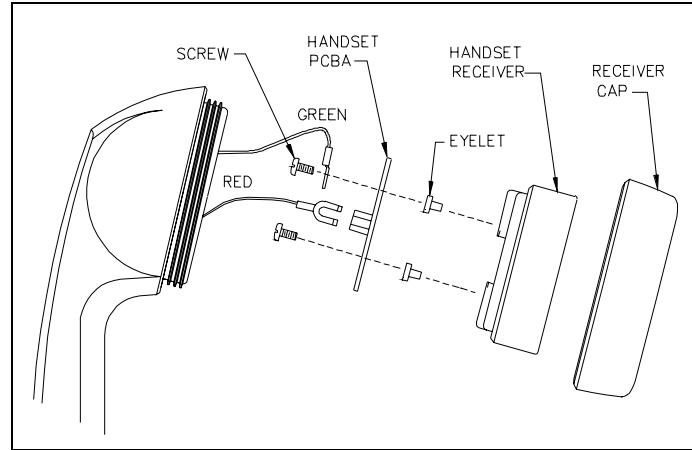

Figure 2. Receiver Detail for 701 Models
1. Feed the red and green wires through the transmitter end of the handset, through the center of the handset receiver end. Place the brass eyelets on the receiver as indicated in Figure 2. Feed the screws through the handset PCBA through the eyelet and into the receiver. Secure the wires as indicated in Figure 2.